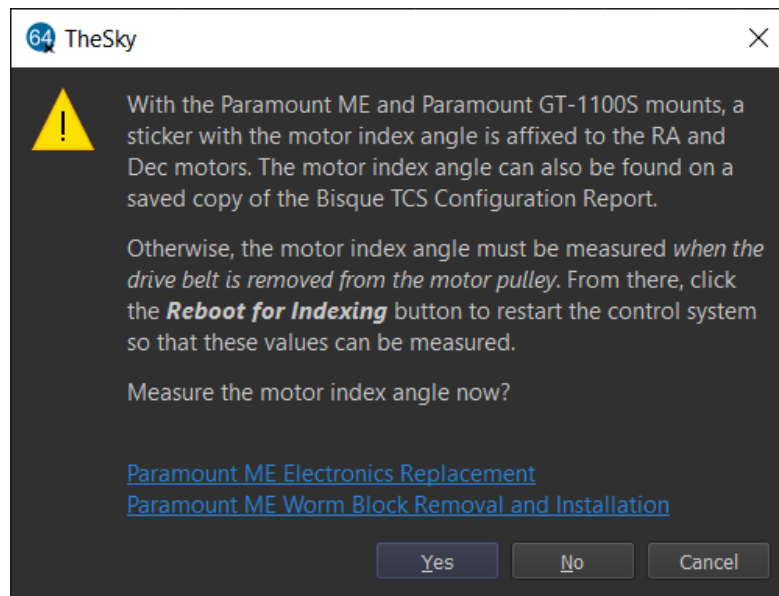

Figure 109: Prompt to measure the motor index angle.
- b. After double-checking that both axes are in the **Balance** position, click the **Measure HA Index Angle** button. When prompted, click **Yes** (Figure 109). The HA motor will rotate briefly as the motor index angle is measured, and a window showing the result is displayed.